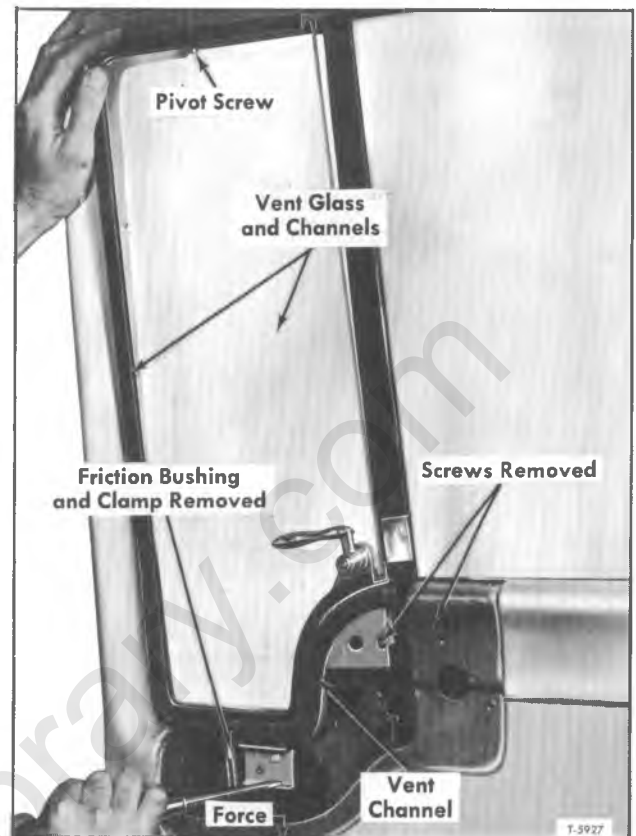

Figure 24—Removing Vent Window
4. Remove three screws which attach division channel to vent channel just below vent latch. Using a screwdriver, pry down on vent channel as shown in figure 24, which will cause upper part of channel to become disengaged from pivot screw. Rotate glass channel lower pivot shaft up out of vent channel.
4. Insert pivot stud of vent lower channel into hole of vent frame as shown in figure 24. Through small access hole at top of door, install vent upper pivot screw. Install three screws which attach bracket of vent channel to glass division channel just below vent latch.